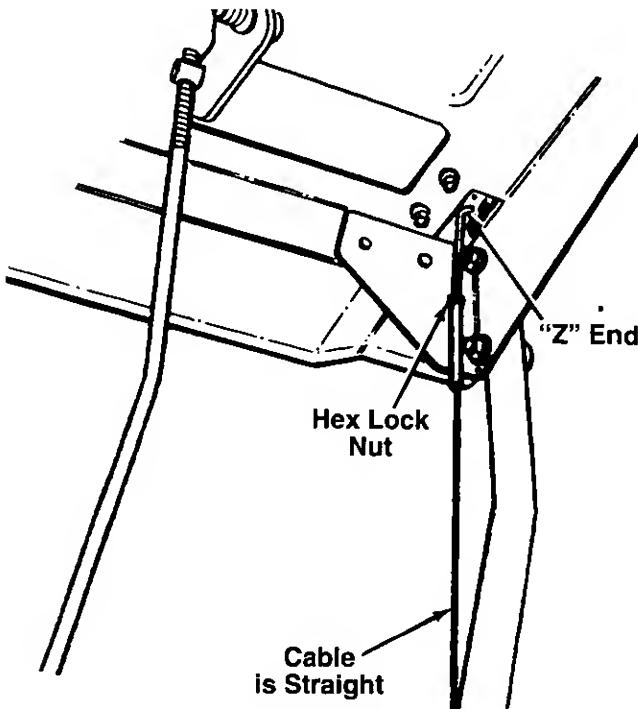

FIGURE 9.
3. Thread the cable onto the threaded portion of the "Z" end until there is no slack in the cable, but the cable is NOT tight. Do not overtighten cable. See figure 9.
If necessary, loosen the hex lock nut and thread the cable in (for less slack) or out (for more slack) as necessary. Refer to figure 9. Recheck the adjustment. Tighten the lock nut against the cable when correct adjustment is reached.